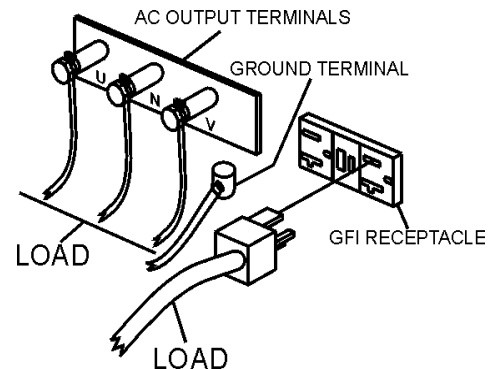

Figure 18. UVW Terminal Lugs (Load)
2. Connect the load to the UVW terminals as shown in Figure 18. These terminals can be found on the output terminal panel, (see page 32 Figure 14 for description and usage of receptacles). To gain access to the output terminals lift the UVW cover. Tighten terminal nuts securely to prevent load wires from slipping out.
6. Remove the load from the UVW terminal strip (Figure 18).